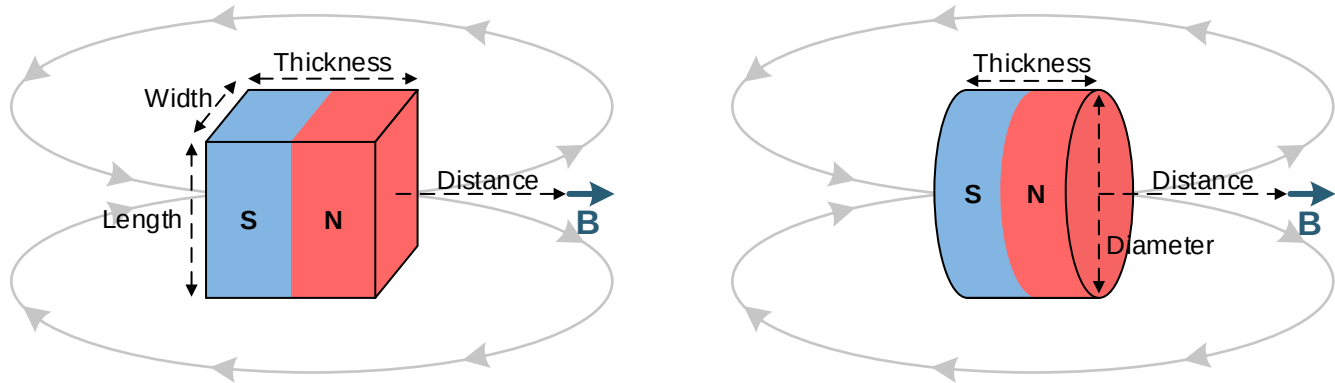

Figure 23. Rectangular Block and Cylinder Magnets
Magnets are made from various ferromagnetic materials that have tradeoffs in cost, drift with temperature, absolute maximum temperature ratings, remanence or residual induction (B_r), and coercivity (H_c). The B_r and the dimensions of a magnet determine the magnetic flux density (B) produced in 3-dimensional space. For simple magnet shapes, such as rectangular blocks and cylinders, there are simple equations that solve B at a given distance centered with the magnet. Figure 23 shows diagrams for Equation 4 and Equation 5.
Use Equation 4 for the rectangular block shown in Figure 23:
Use Equation 5 for the cylinder shown in Figure 23: